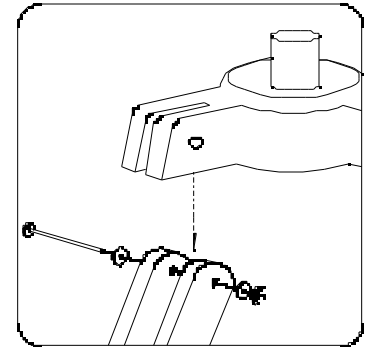

fig. 1
- Select one *Tripod Leg (5)* and extend the *Tripod Leg Middle Section (6)*. Using *Tripod Leg Lock Screws (9)* included in the hardware pack, insert the *Tripod Leg Lock Screw* into the lower brackets on the *Tripod Leg*. Tighten the *Tripod Leg Lock Screws* so that the middle section is securely in place. Repeat on remaining two legs.
- Locate the *Altazimuth Yoke Mount (3)*. **Note: Before assembling tripod legs to Altazimuth Yoke Mount, make sure the Accessory Tray Braces(7) face inward.** Locate the long bolts and washers from the hardware pack. Position the mount over the *Tripod Leg (5)* as shown (fig. 1) and align the holes in the *Tripod Leg* with the holes in the mount. Insert the bolts through the holes at the top of a *Tripod Leg*. A washer should be positioned on both outer sides of the *Tripod Leg*. Attach a wing nut to the bolt, but do not tighten it all the way. Repeat on the remaining two *Tripod Legs*. Once you have attached all *Tripod Legs* to the mount, securely tighten all wing nuts.